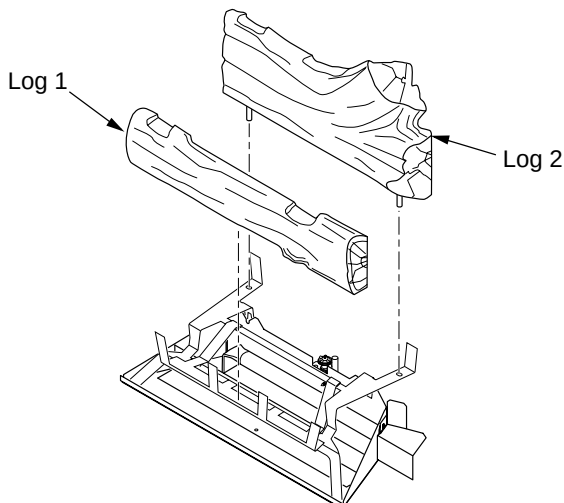

Figure 25 - Installing Logs 1 and 2
1. Place front (log 1) onto front of grate sliding log all the way forward against grate fingers (see Figure 25).
2. Insert pegs on bottom of rear log (log 2) into holes in rear of grate (see Figure 25).